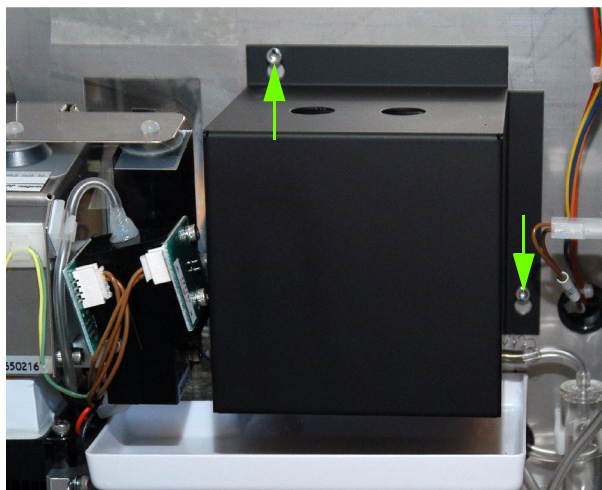

Fig.1: cover screws
- ◆ Unscrew the 2 CHC screws then remove the chamber cover (See “Fig.1: cover screws, page 2”).